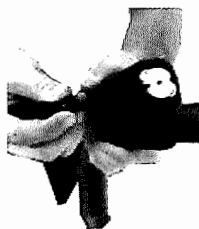

Fig. 14
9. Take out the charging handle by pulling it out. (Fig. 14)